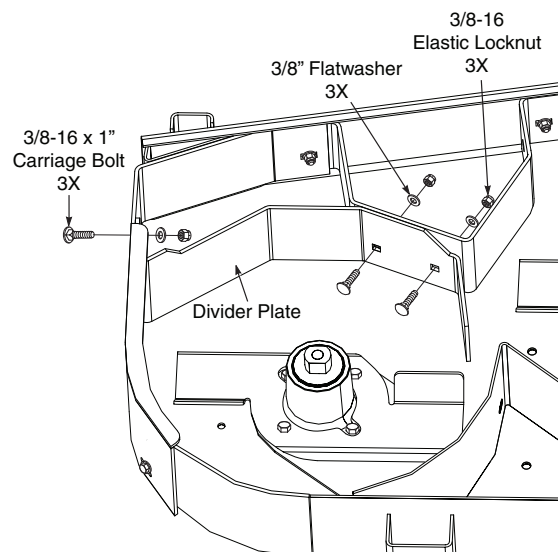

Figure 6. R.H. Divider Plate Installation
10. Install the R.H. Divider Plate to the R.H. Mulch Baffle and Shut-Off Baffle as shown in Figure 6, Page 4. Secure using 3/8-16 x 1" carriage bolts, 3/8" flatwashers and 3/8-16 elastic locknuts. Do not tighten the hardware at this time. See Figure 6.